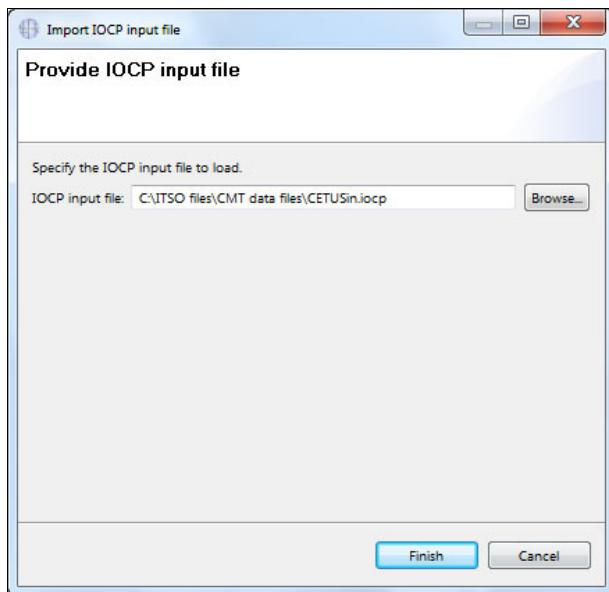

Figure 4-13 Specifying the IOCP file for import
2. Select the IOCP file on your workstation to import into the CHPID Mapping Tool and click **Finish** (Figure 4-13).